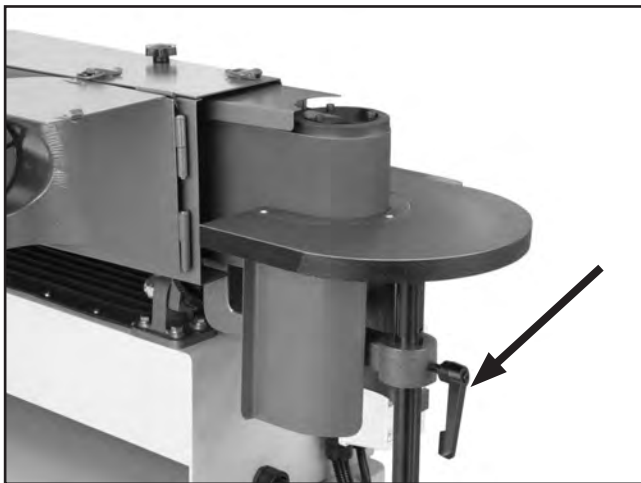

Figure 22. Spindle table adjustment lock handle.
1. Loosen the adjustment lock handle shown in **Figure 22**.